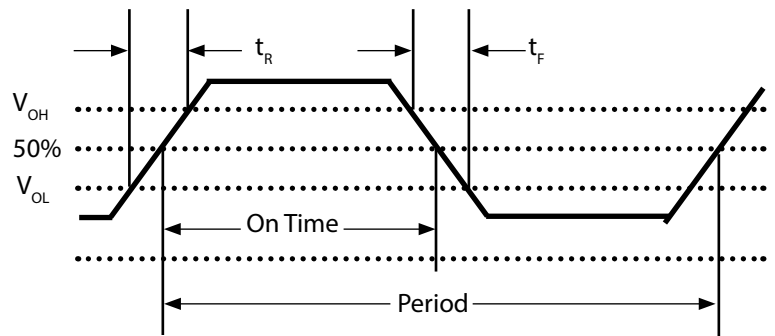

Fig 2: Waveform
- 4] Duty Cycle is measured as On Time/Period (Fig 2).